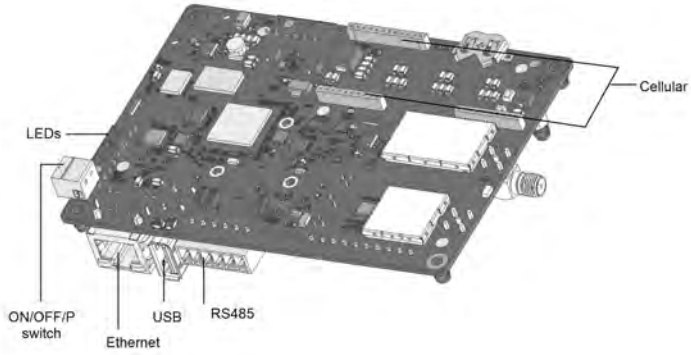

Figure 22: Communication board connectors
- e. Connect the Ethernet connector to the RJ45 port on the communication board (see *Figure 22*).